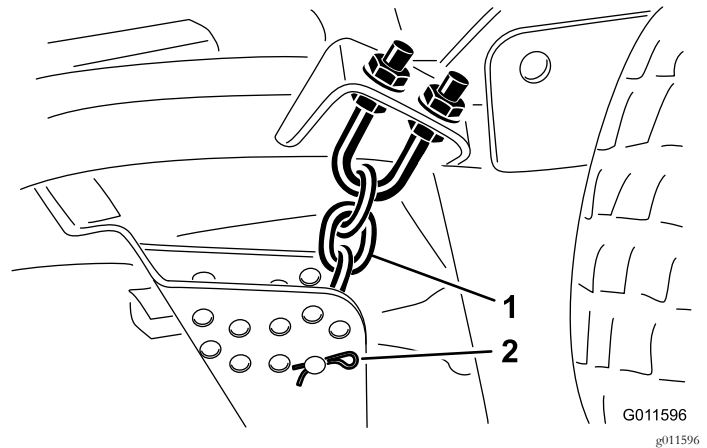

Figure 19
5. Remove the hairpin cotter and clevis pin securing the height-of-cut chains to the rear of the cutting unit (Figure 19).